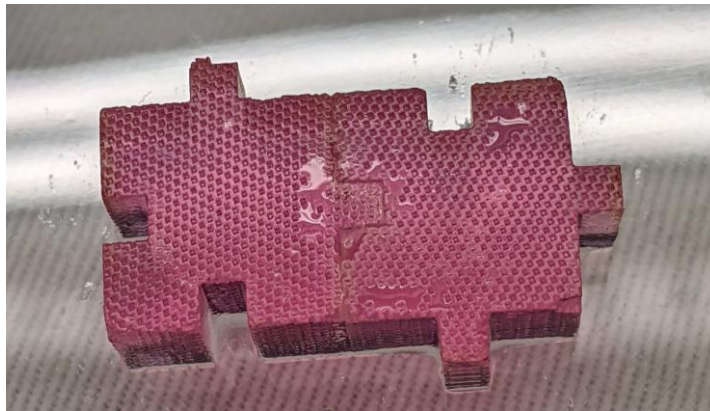

Figure 2. E-Blocks Joined Together for Cell Culture.
- When cells occupy approximately 60% of all cell surfaces within E-Block, join an additional E-Block to the original E-Block by sliding the tongue of new E-Block into a groove of original E-Block as shown in **Figure 2**.